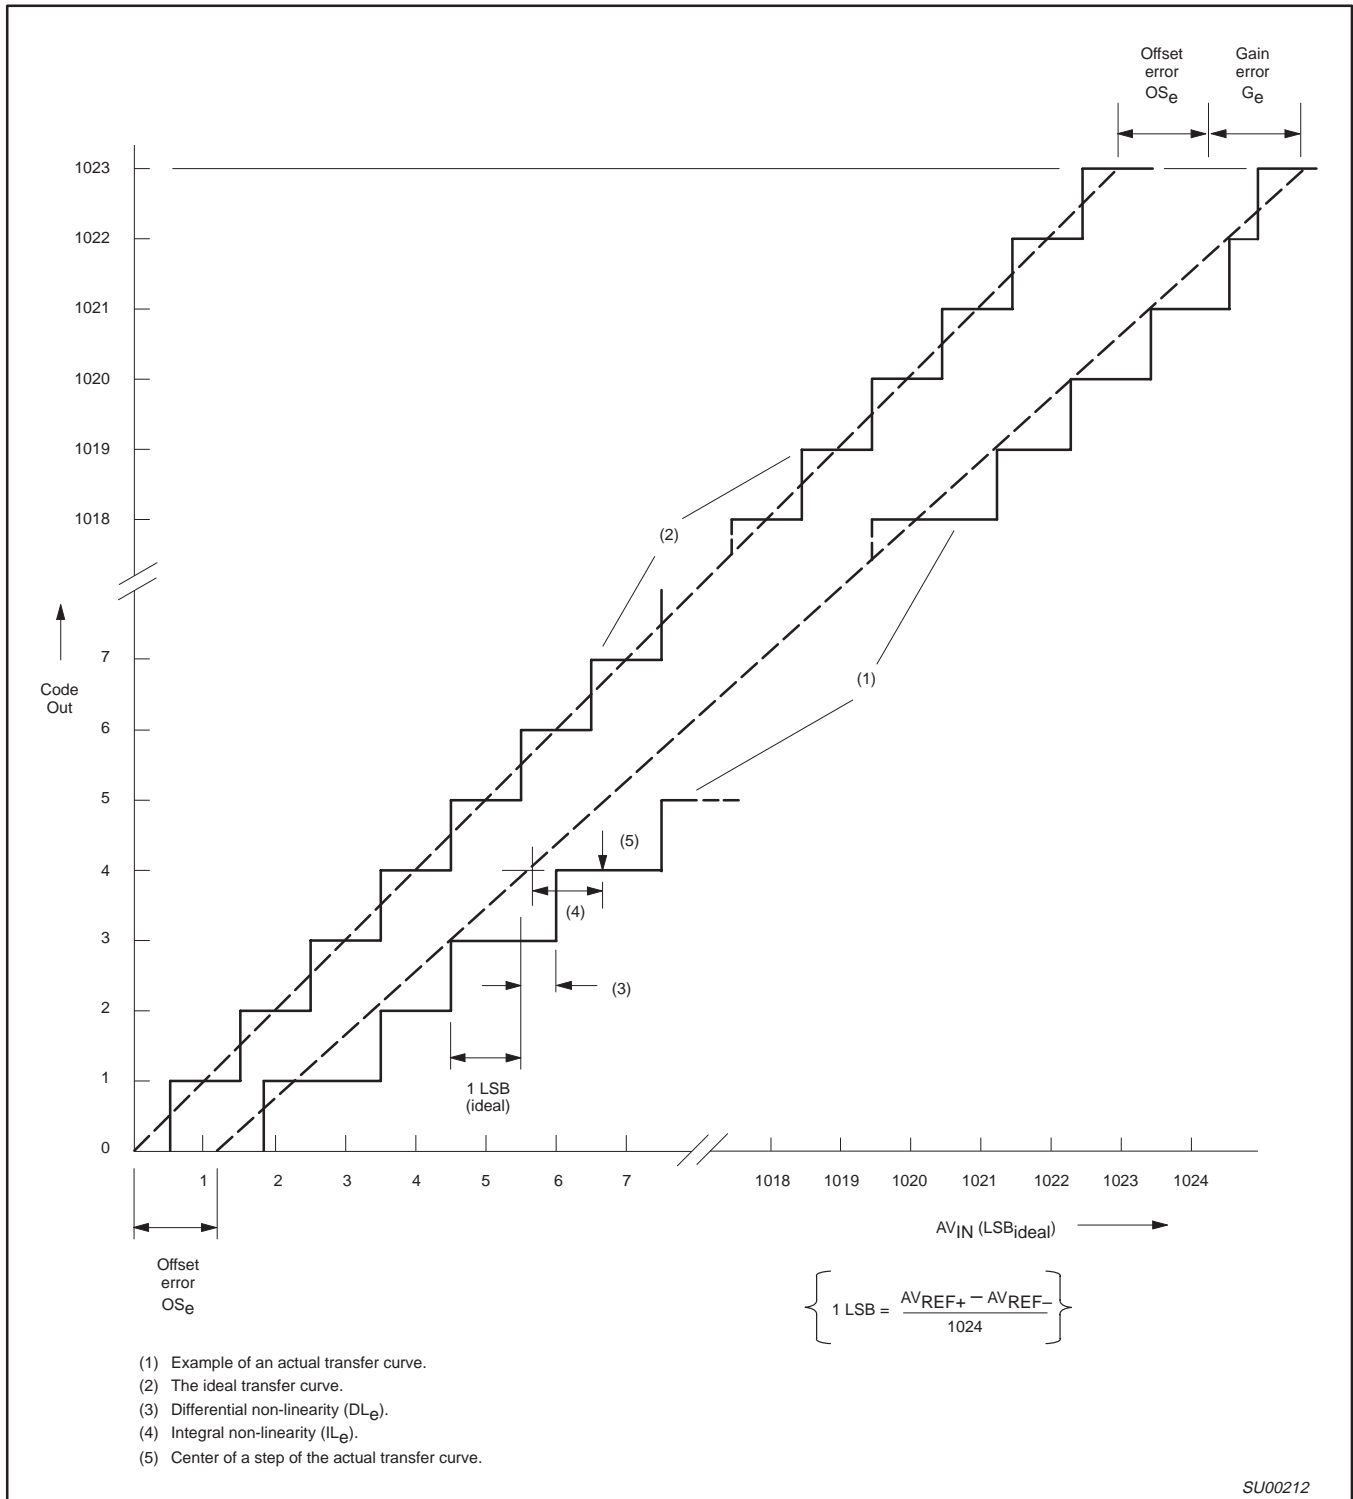

Figure 47. ADC Conversion Characteristic
- The differential non-linearity (DLe) is the difference between the actual step width and the ideal step width. (See Figure 47.)
- The integral non-linearity (ILe) is the peak difference between the center of the steps of the actual and the ideal transfer curve after appropriate adjustment of gain and offset error. (See Figure 47.)
- The offset error (OSe) is the absolute difference between the straight line which fits the actual transfer curve, and a straight line which fits the ideal transfer curve. (See Figure 47.)
- The gain error (Ge) is the relative difference in percent between the straight line fitting the actual transfer curve (after removing offset error), and the straight line which fits the ideal transfer curve. Gain error is constant at every point on the transfer curve. (See Figure 47.)